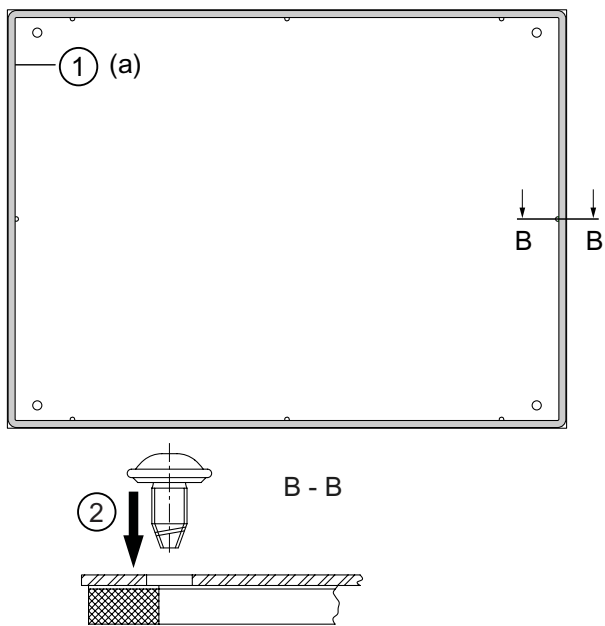

Fig. 5
- 1 10x5 mm sealing tape must be attached all around the top cover to achieve IP54 degree of protection. See Figure 5 (a).